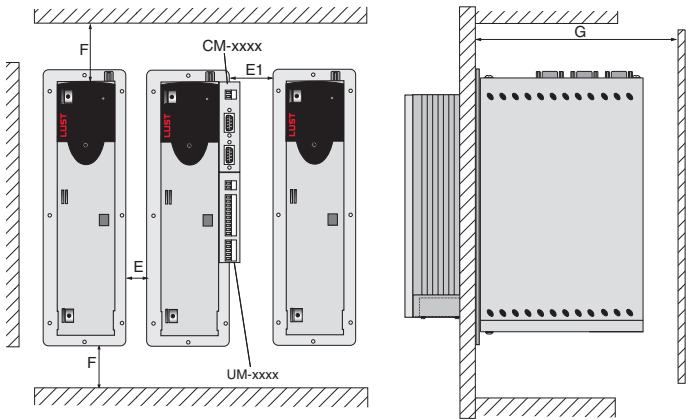

Figure 2.3 Mounting clearances (see Table 2.5)
1) Mounting clearances, see Figure 2.3